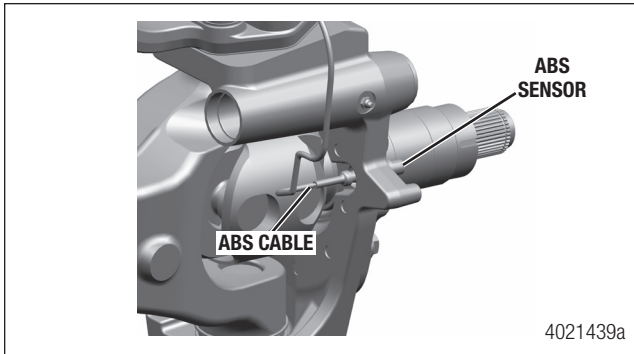

Figure 8.20
7. On units equipped for ABS, route the ABS cable to the back side of the knuckle. Install the ABS sensor into the clip in the spindle Figure 8.20.